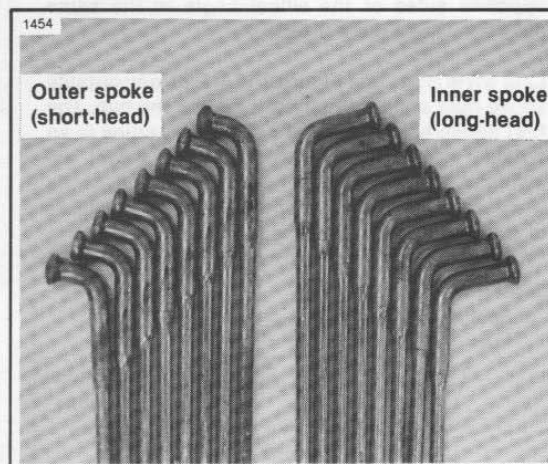

Figure 2-14. Spoke Identification
1. See Figure 2-14. Divide spokes into 2 groups. Inner spokes have long heads, outer spokes have short heads. There are also fine and coarse threaded spokes and nipples. Match up fine-threaded spokes with fine-threaded nipples and coarse-threaded spokes with coarse-threaded nipples. Do not inter-mix the thread patterns.